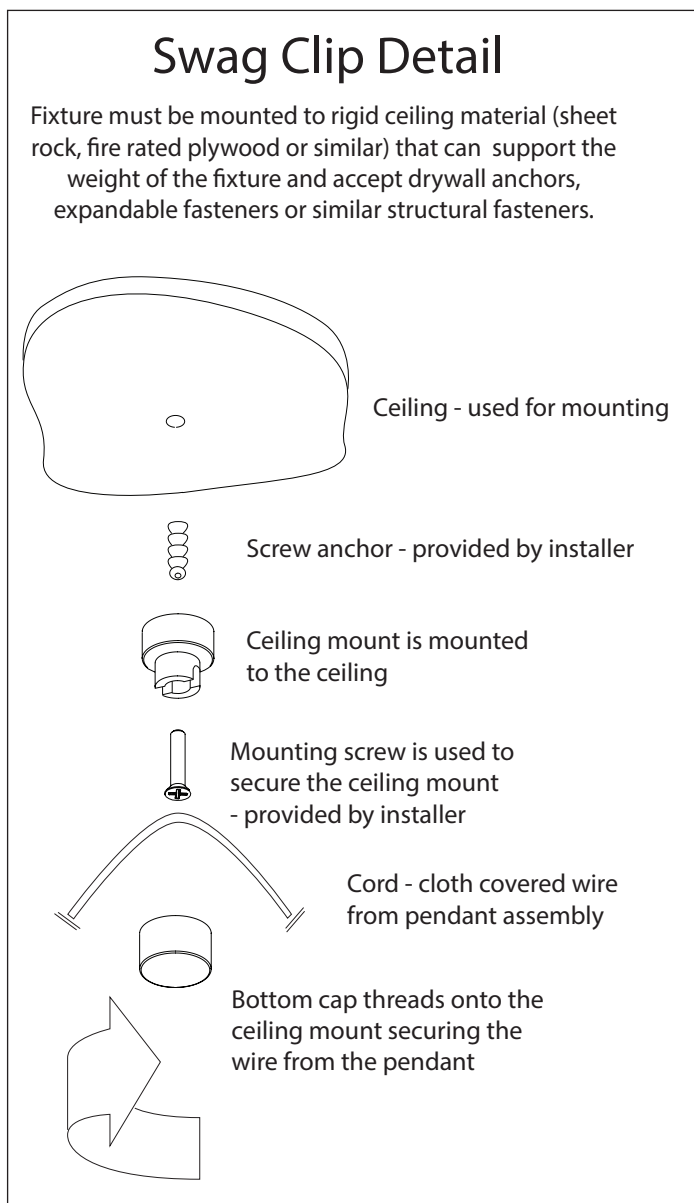

Figure 4.
8. Screw swag hook (optional) securely into ceiling or support beam. Pull cord through to desired slack and length. *See Figure 4*.